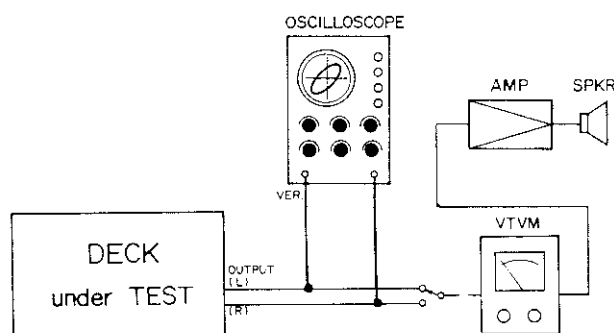

Fig. 7-5 Head Alignment Fine Adjustment Set-up and test connections
1. Connect the Test equipment as shown in Fig. 7-5.